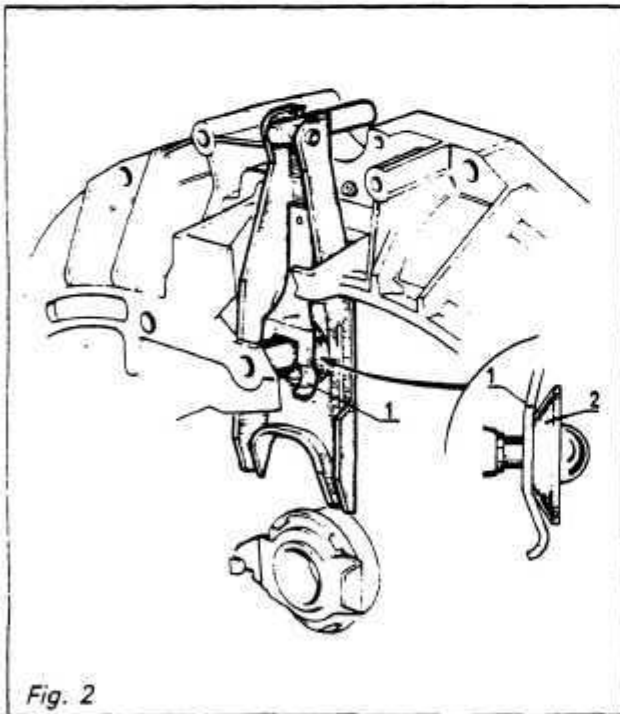

Fig. 2
6. Slide clutch release fork from ball stud. Remove fork and release bearing. Fig. 2 and Fig. 3